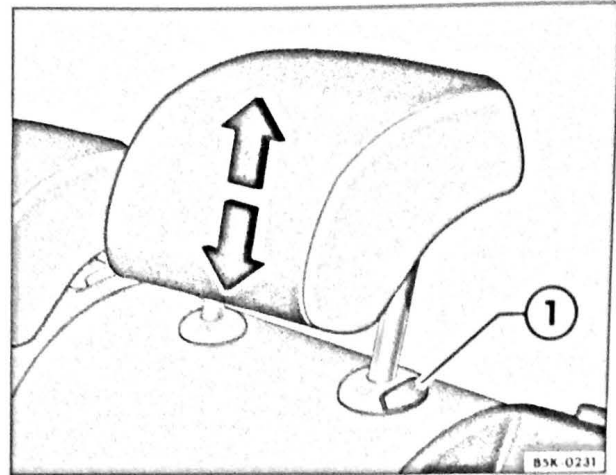

Fig. 47 Adjusting rear head restraint
- Push the head restraint up in the direction of the arrow or push it down while pressing and holding button  ⇒ Fig. 47  ⇒ .